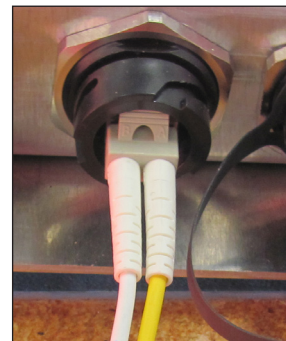
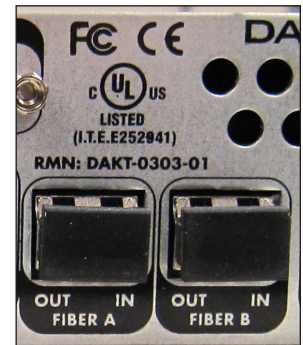

Figure 2: Display-Mount Fiber-Optic Port
Figure 3: Rack-Mount Fiber-Optic Ports
2. Insert duplex LC fiber-optic cables into their corresponding ports. The cables will click into place when seated properly. Refer to **Figure 2** and **Figure 3**.